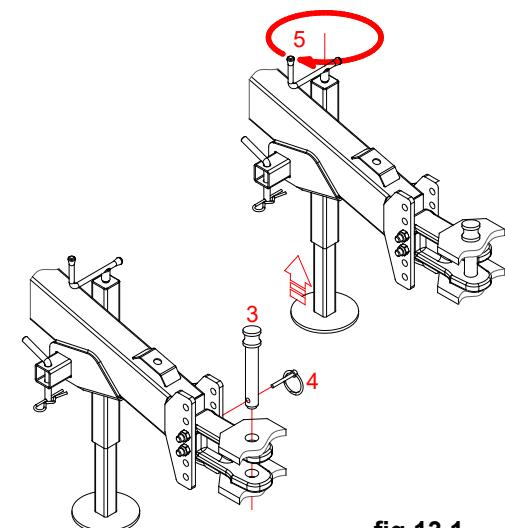

fig.13.1
Fig.13.1 - When the tractor is near the hay rake coupling point, an operator on the ground, by acting on the bearing foot crank (2) raises or lowers the hay rake coupling point in order to make it horizontally coincide with the tractor.
Fig.13.1 - After the coupling, the operator inserts the locking pin (3) in the corresponding holes of the coupling point, as shown in the fig.12, and then secures it with the respective R cotter pin or safety pin (4).
Fig.13.1 - Next, the operator turns the handle (5) on the bearing foot to lift the latter as high as necessary to move it from its position to that required for trailing the rake.